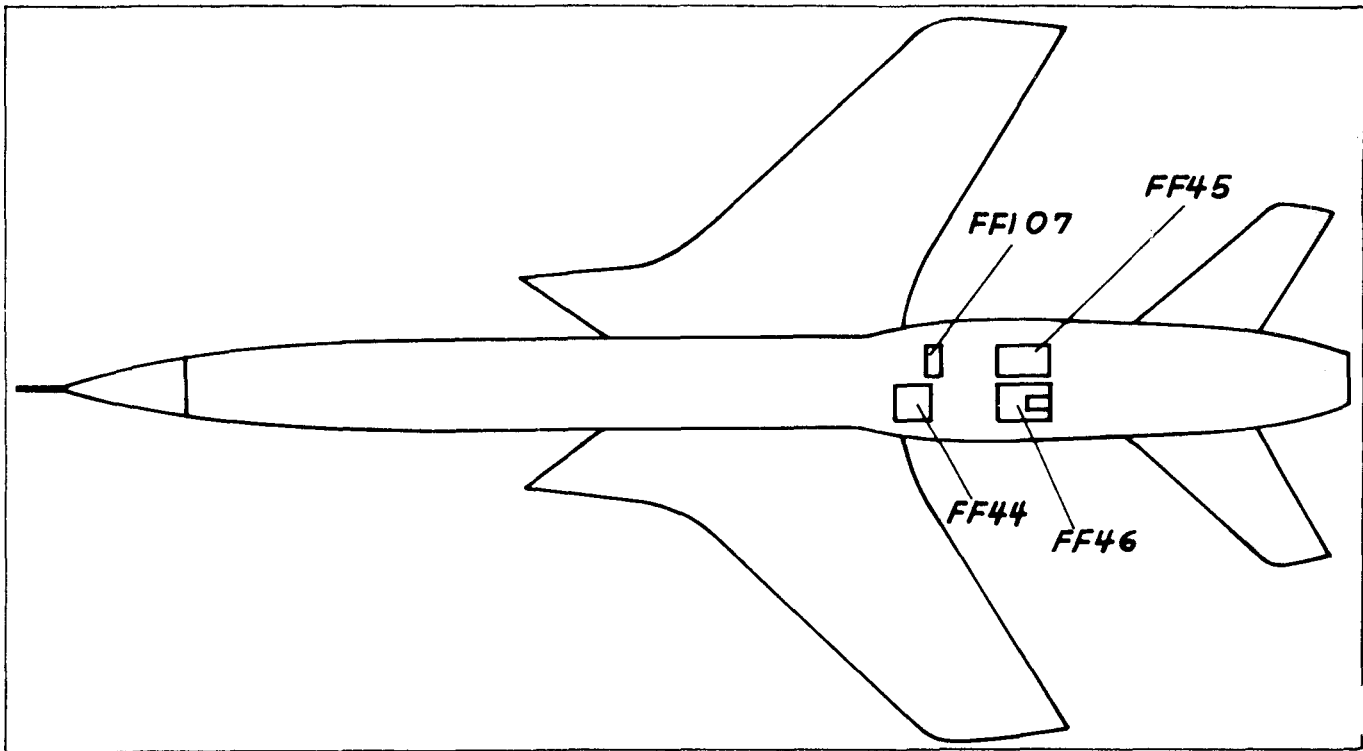
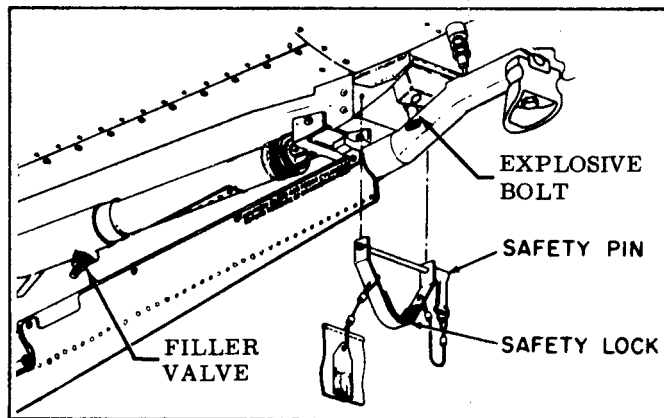

Figure 9-33. Location of Operational and Spare Engine Starter Cartridge - F-105D/F (View - Bottom Centerline)
Figure 9-35. F-105D/F Tail Hook Showing Air Bottle Filler Valve and Explosive Bolt
d. Engine Starter Cartridges. F-105D/F aircraft may carry one operational and one or two spare starter cartridges. The operational cartridge is located in the breech inside door FF107. The spare cartridges are located behind access doors FF45 and FF46 on unmodified aircraft, and behind FF44 on aircraft modified by T.O. 1F-1050947. All of these access doors are located on the bottom centerline aft of the bomb bay doors. The F-105D/F uses the MXU-4/A starter cartridge. (see figures 9-33 and 9-34)
(1) Survival kits. The survival gear in the F-105D/F may be located either in the bucket of the ejection seat or on the person of the individual aircrew member.
(2) The F-105D/F may contain destructors either internally or in pods suspended on its pylons. Maintenance personnel should be consulted for further information as to location and type.
(3) F-105D/F aircraft are known to carry explosive actuated fire extinguisher bottles internally. Maintenance personnel should be consulted for locations and type.
(4) The F-105D/F uses an explosive bolt to release its tail hook and an air bottle pressurized to 3000 psi to drive it to the ground. The air bottle should be bled thru the filler valve before any attempt is made to remove the explosive bolt. (see figures 9-35 and 9-36)